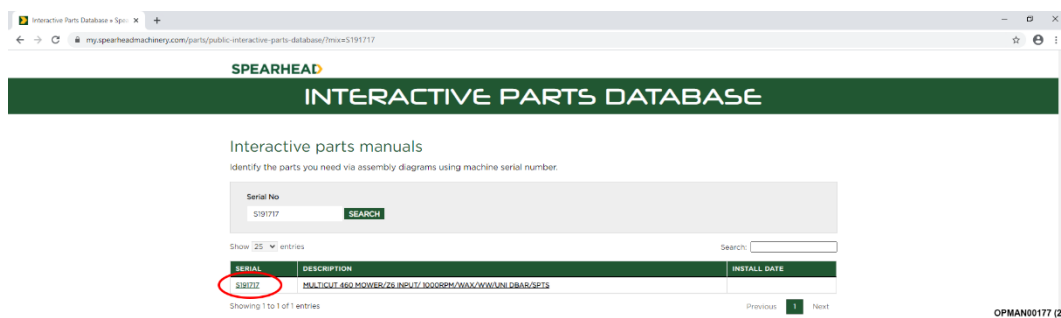

Figure 11.2 – Click On Serial Number
11.1.1.2 After entering the serial number a specification for the machine will appear. Click on the serial number; see Figure 11.2.